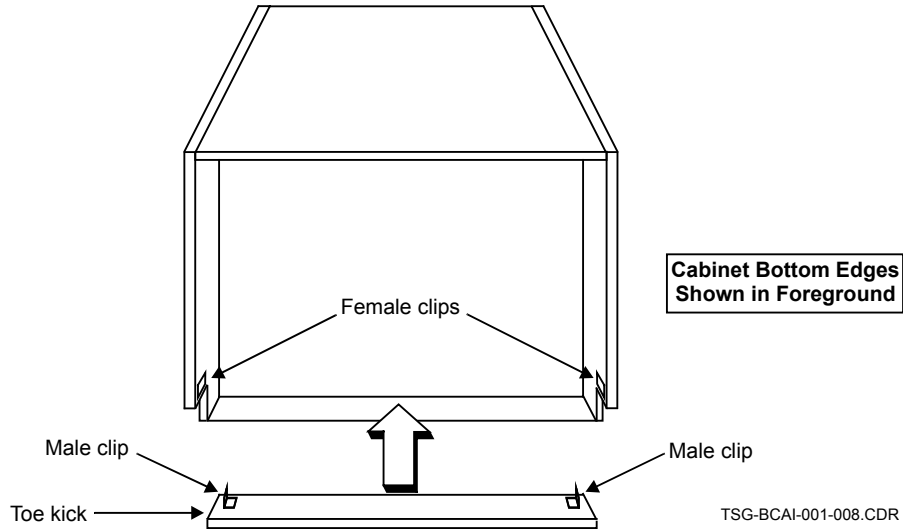

Figure 9 — Install and Secure the Toe Kick
- (7) Referring Figure 9, secure the toe kick into the bottom of the cabinet (two screws in each of the two brackets and then a third screw in each for additional support).